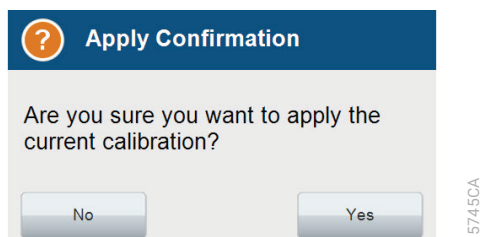

Figure 14. Apply spectral calibration confirmation window.
7. After reviewing the results, select **Finish**. This will open a confirmation window. Select **Yes** to apply the spectral calibration results (Figure 14). The spectral calibration results will not be saved unless you select **Yes** on this window.